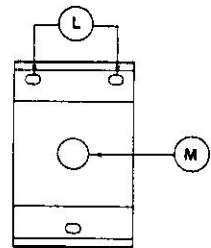

FIG. 3. WALL MOUNTING PLATE
1. Take the mounting plate (J). Insert the supply wires (K) coming out of the junction box thru wiring hole (M). Install the mounting plate to the wall using the appropriate hardware (by others) recommended to hold the fixture. Fixture weighs approximately 8 lbs. NOTE: The two slotted holes (L) on the mounting plate must be on the top side when installed (Fig. 3).
2. Bring the wires out of the access hole (N).
3. Install the three set screws (O) to arm.
4. Install the fixture to the mounting plate (J) and tighten the three set screws (O) securely.